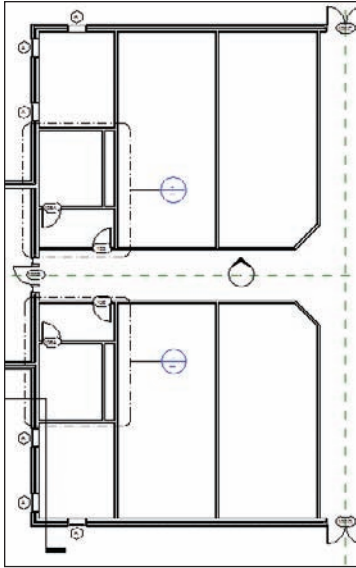

FIGURE 4.48 Completing the floor plan by using the Offset command will be a common procedure.
8. Repeat the process for the walls south of the corridor, as shown in Figure 4.48.